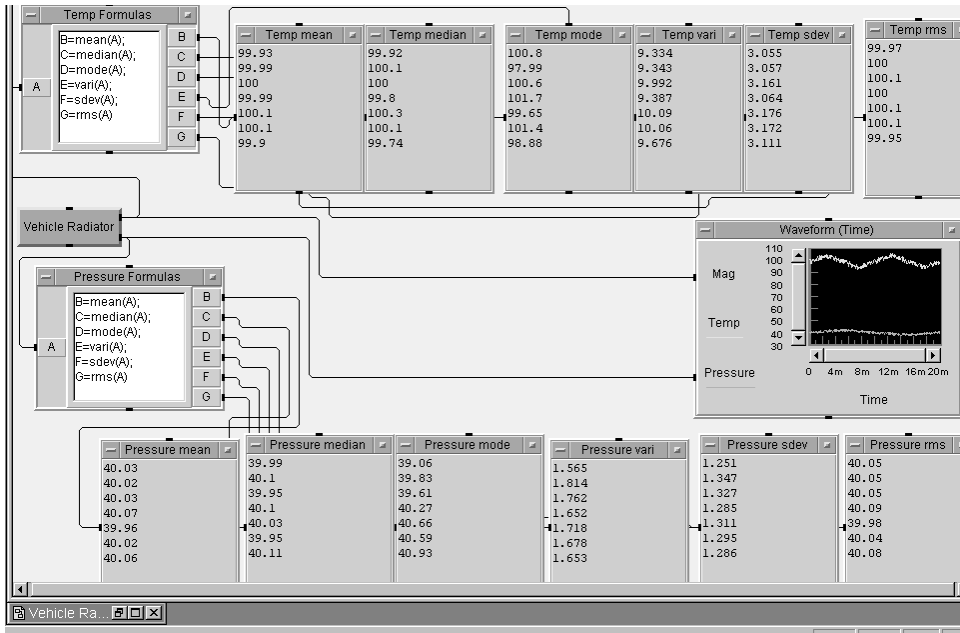

Figure 10.2. The Lab 10.1 program after several runs
- ◇ 15. Run your program several times; it should look like Figure 10.2.